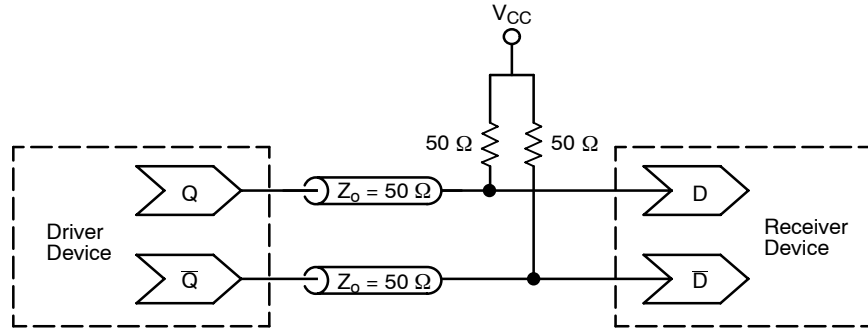

Figure 14. Typical Termination for Output Driver and Device Evaluation
4. CML outputs require  $50 \Omega$  receiver termination resistors to  $V_{CC}$  for proper operation. See Figure 14.